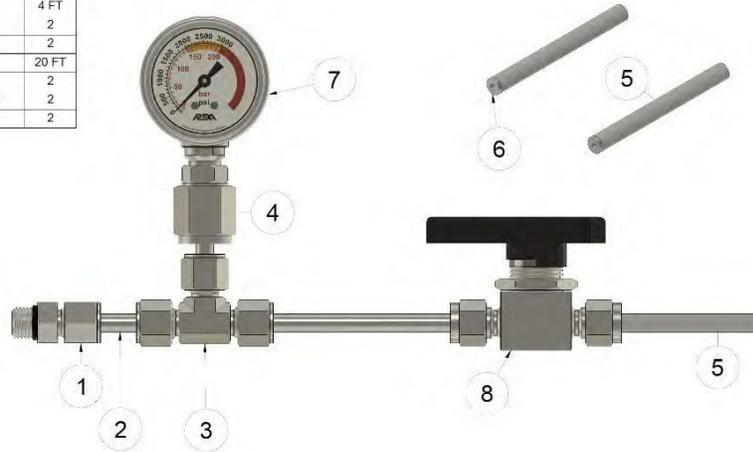
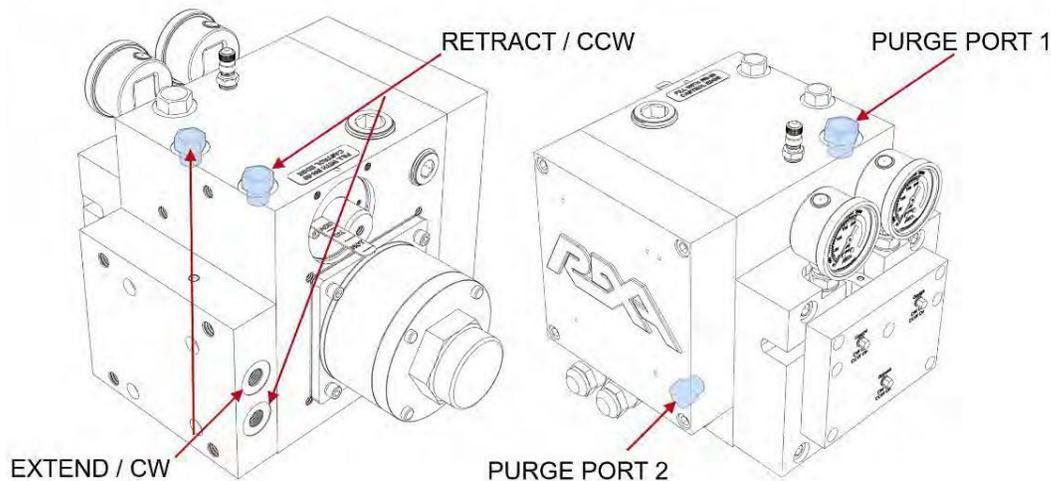

Figure 21: Bleed Kit (PN: K09275)
Figure 23: Extend/CW and Retract/CCW Ports
*NOTE: To purge the actuator of air, it is recommended that you use the REXA bleed kit. See Figure 21 for details.*
4. Attach the REXA bleed kit in Figure 21 to the open ports Extend/CW and Retract/CCW in Figure 23. Follow the hydraulic lines to differentiate between pressure directions.